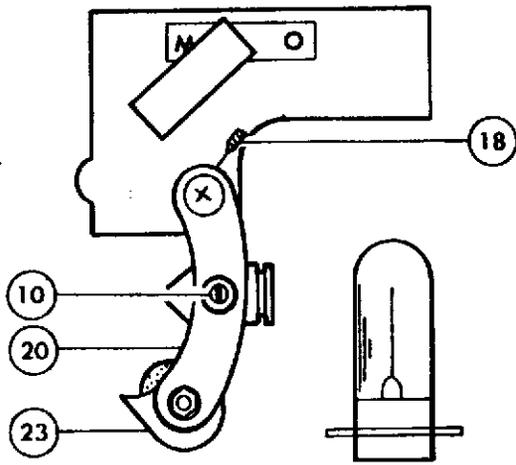

Fig.13
2. Make sure that (22) has no scratch and can turn smoothly.
3. Refer to Fig. 13. Fix (20) with (18) x 2 in place when switching M-0 lever to "0" side, the sound lens adjustment hole of (20) aligns with (10).
4. Adjust an angle of (23) to see that hum is minimum when switching M-0 lever to "M" side.